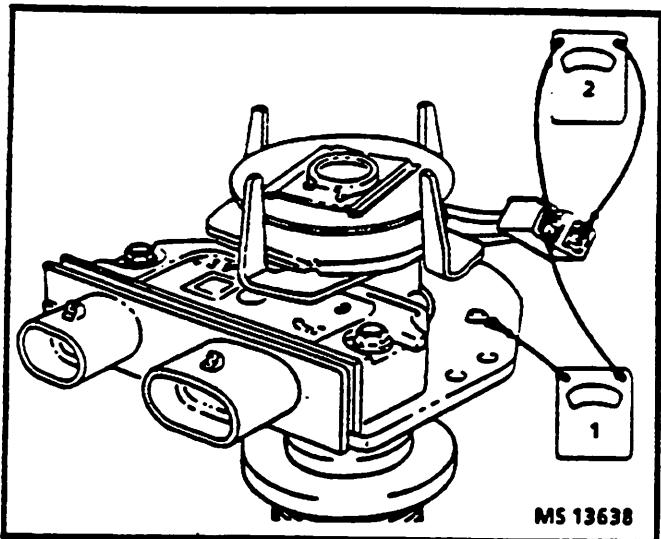

Figure 11 - Testing the Pickup Coil
- Connect an ohmmeter to either pickup coil lead and the housing as shown in Figure 11, Step 1. The reading should be infinite. If not, replace the coil.
- Connect an ohmmeter to both pickup coil leads as shown in Figure 11, Step 2. Flex the leads by hand at the coil and the connector to locate any intermittent opens. The ohmmeter should read a constant unchanging value in the 500 to 1500 ohm/range. If not, replace the coil.